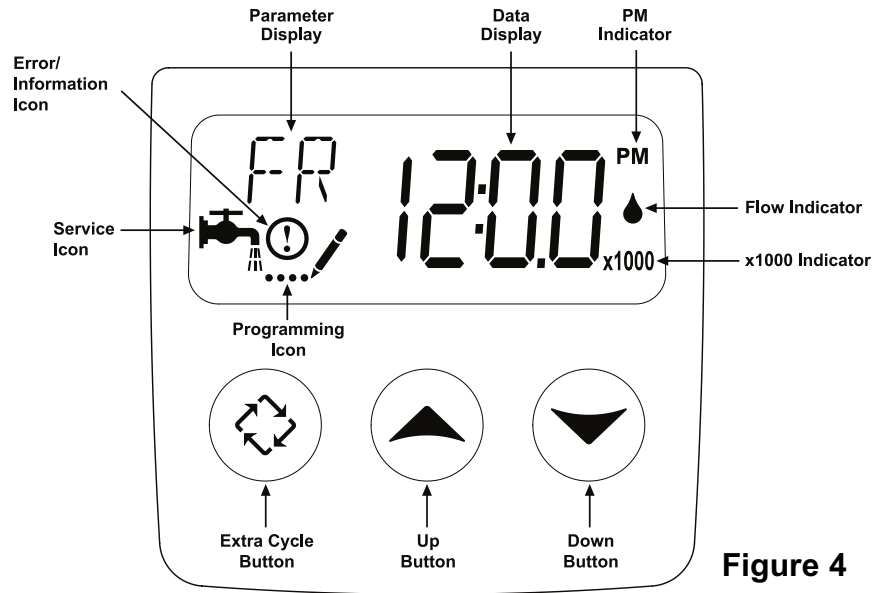

Figure 4
8. Plug the 24-volt transformer into a 120 VAC 60 Hz outlet. This valve has five positions: 1) Backwash 2) Brine/Rinse 3) Second Backwash (not used) 4) Rapid Rinse and 5) Brine Refill. When the valve is in the Service position, the *extra cycle* button (far left button as shown on Figure 4) must be pressed and held for 5 seconds before it activates. Press and hold the *extra cycle* button for 5 seconds to advance the valve into the "1" Backwash position. Slowly turn on the water supply and allow the unit to backwash until the air purges out of the tank and clears the system.